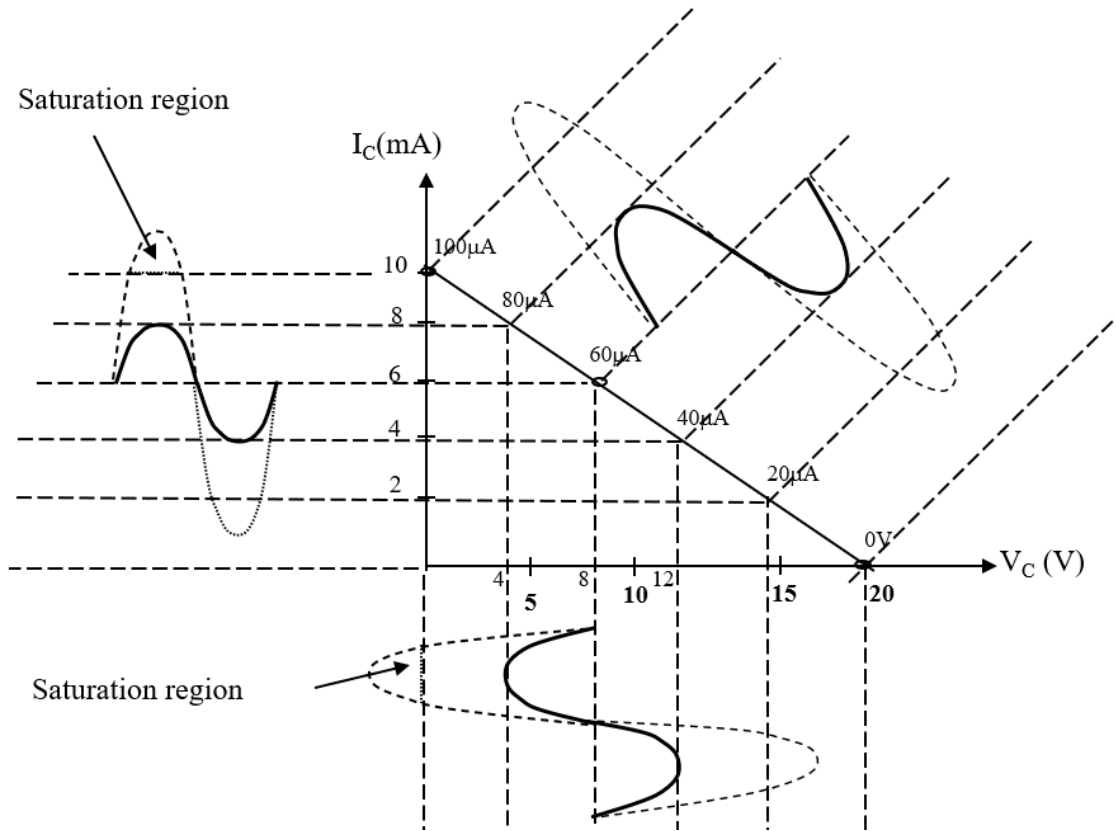

Figure 3.23: The Occurrence of Amplitude Distortion (*high input signal*)
- With the reference to Figure 3.23: